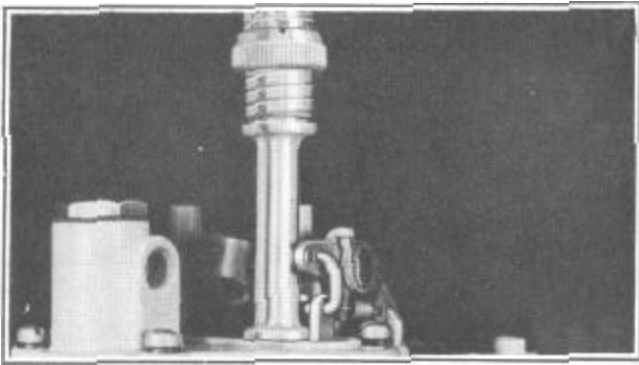

FIGURE 75
17. Install throttle connector rod, and gauge pump stroke, Figure 75. Set stroke  $18/64$ " for 6 cylinder engines and  $14/64$ " for 8 cylinder engines.